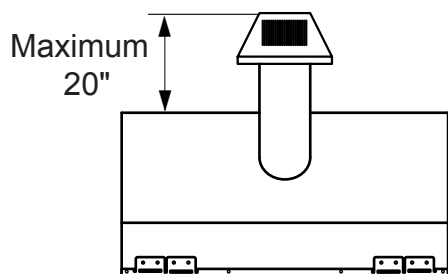

Figure 11 - Rear Vent Application, Maximum Horizontal Distance
The maximum horizontal distance between the rear of the appliance and the outside of termination is 20" (508 mm). See *Figure 11*.
1. Locate and cut the vent opening in the wall. For combustible walls first frame in opening. See *Figure 11*.
3. Attach vent pipe assembly to the fireplace. Set fireplace in front of its permanent location to insure minimum clearances. Mark the wall for a 10 $\frac{1}{2}$ "H x 10 $\frac{1}{2}$ "W (267mm x 267mm) square hole (for noncombustible material such as masonry block or concrete, a 8 $\frac{1}{2}$ " [216mm] diameter hole is acceptable). See *Figure 11*. The center of the hole should line up with the center line of the horizontal rigid vent pipe end. Be sure to allow for minimum rise. Cut a 10-1/2"x10-1/2" (267mm X 267mm) square hole through combustible exterior wall (8 $\frac{1}{2}$ " [216mm] diameter hole if noncombustible). Frame as necessary. Allow $\frac{1}{4}$ " minimum rise per foot.